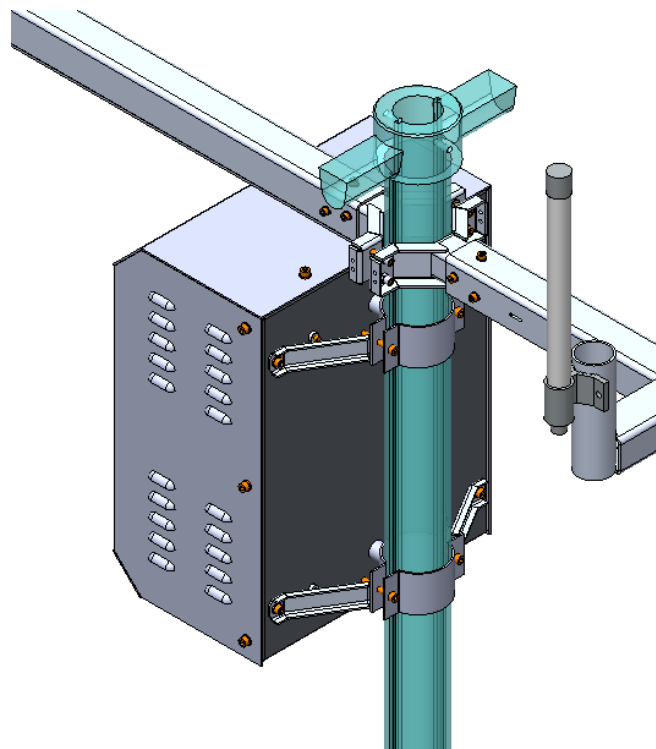

Figure 7 Attach the plate holders to the brackets and cabinet back
2. Attach the Plate Holders to the cabinet walls and to the clamps using the screws, washers and Nylock nuts that were prepared in advance (see Table 1 and Figure 7).